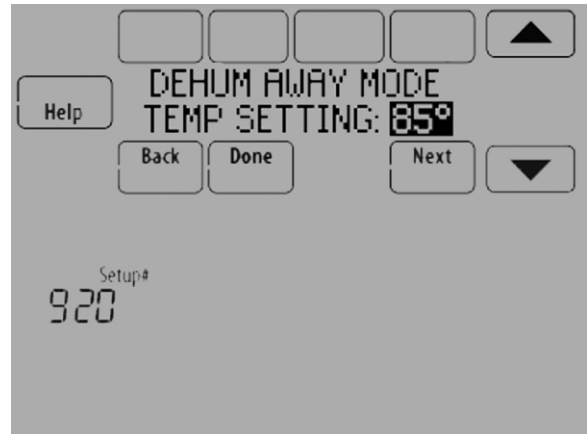

Fig. 205.
3. Set temperature and dehumidification settings. See Fig. 205.